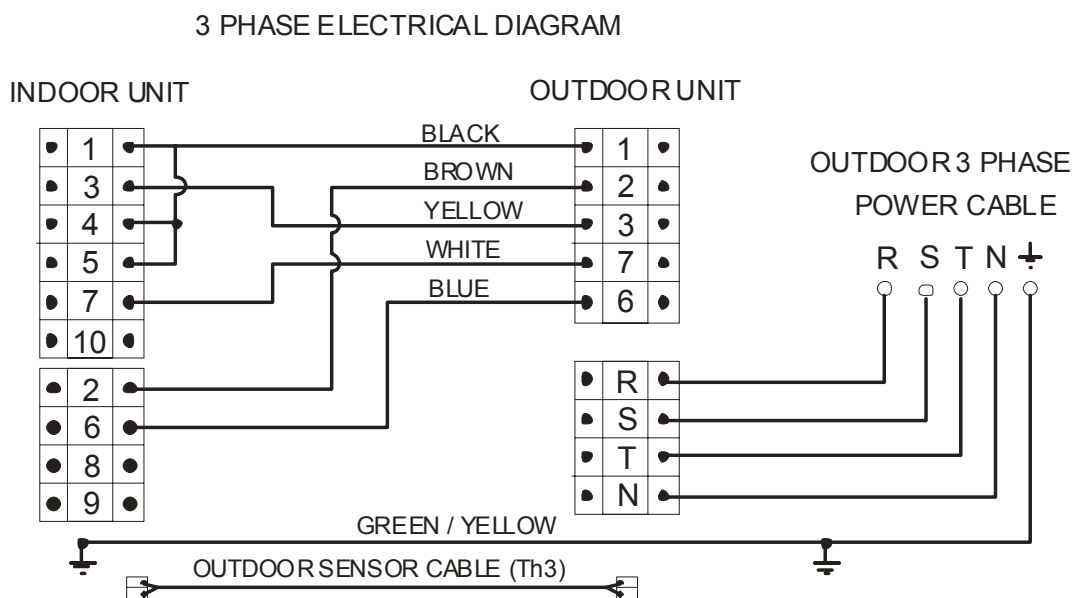

Fig. 6-9
- Connect the inter-unit electrical cable to the terminal block 3, using a screw driver to insert the stripped wire end (8 mm.). Make sure that the wires are connected in accordance with the wiring diagram in Figure 6-9.
- Connect the wires to the terminal block male-female, in accordance with the color coding, as shown in Figure 6-9.